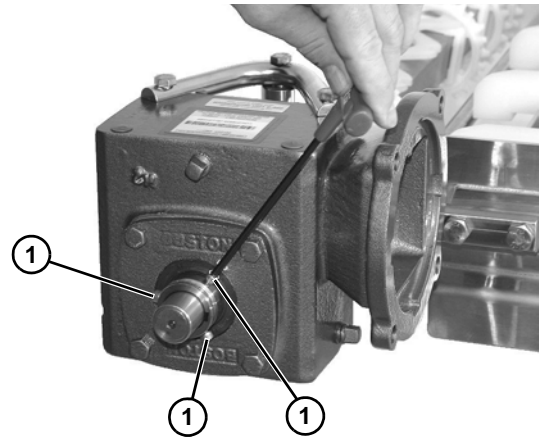

Figure 54
3. Using a hex wrench, loosen the allen head screws (Figure 54, item 1) that connect the gearmotor to the drive spindle. Repeat on opposite side of gearmotor.